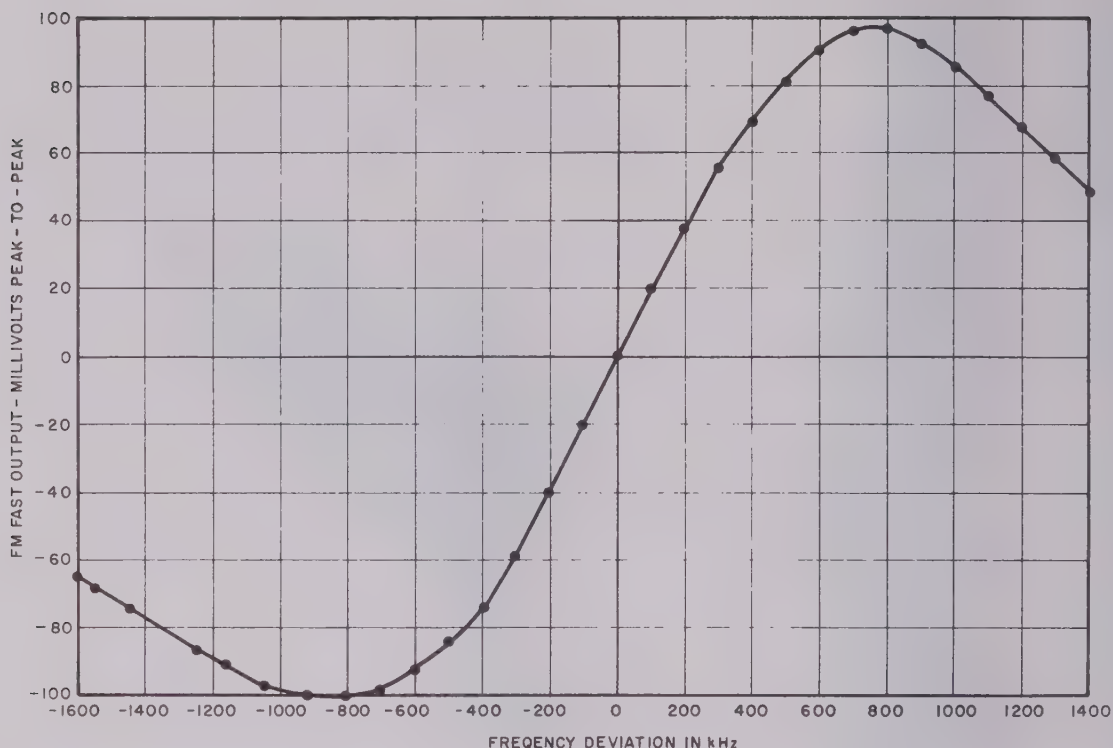
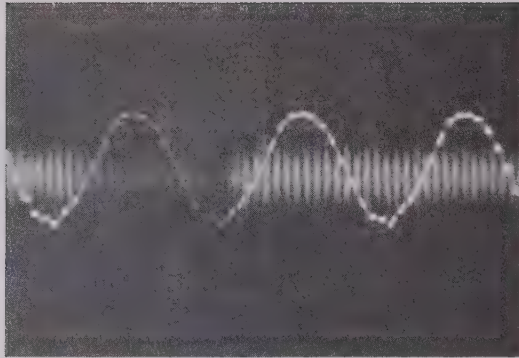

FIGURE 4-5. RATIO DETECTOR OUTPUT
FIGURE 4-6. INCIDENTAL FM AS DISPLAYED ON OSCILLOSCOPE
- f. Vary generator frequency and record voltage at the FM SLOW and FM FAST outputs. A voltage-frequency characteristic can then be plotted from the data taken. Figure 4-5 is a plot of data taken from FM FAST output monitor.
If a more accurate calculation is desired, then the value of K should be determined from a plot similar to that shown in Figure 4-5. A photograph of the voltage which may typically appear at the FM FAST monitor point is shown in Figure 4-6.